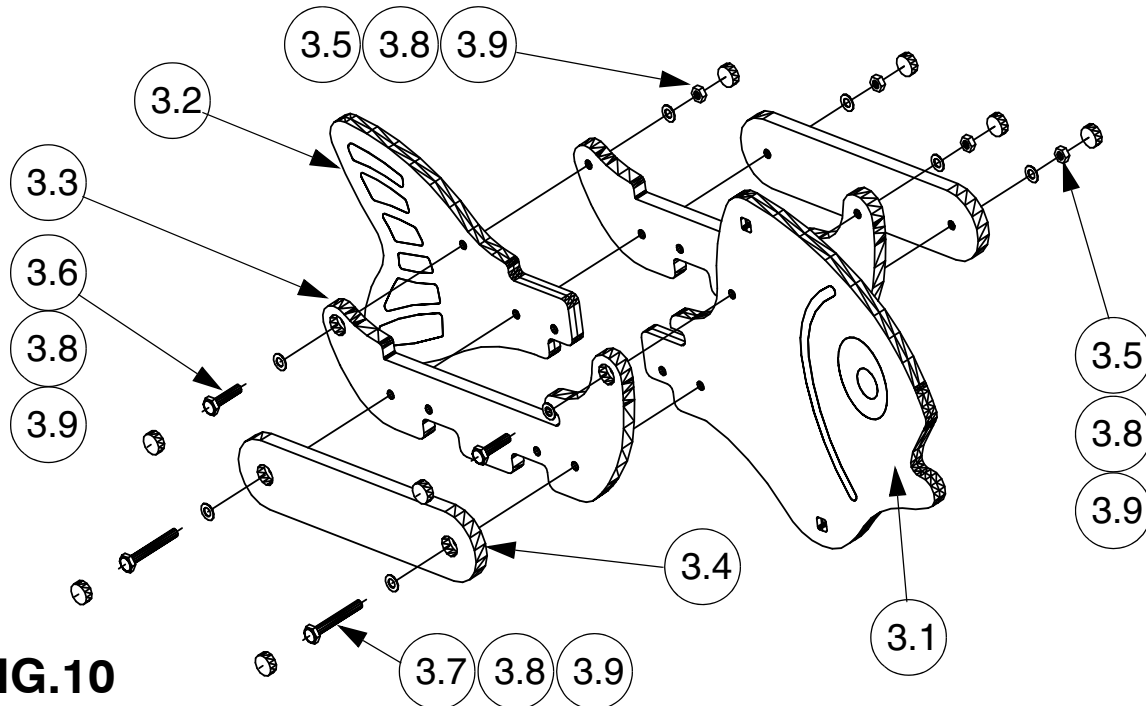

FIG.10
- i) Position 85mm & 45mm long bolts (items 3.6 & 3.7) with plain washers (items 3.8), ensuring the counterbores on items 3.4 and 3.3 face outermost. (FIG.10)
- ii) Tighten to a torque setting between 24-27 Nm (18-20 lbf ft). Position plastic caps (item 3.9) over counterbores and tap into place, ensuring they finish flush with the surrounding plastic surface with no sharp edges..